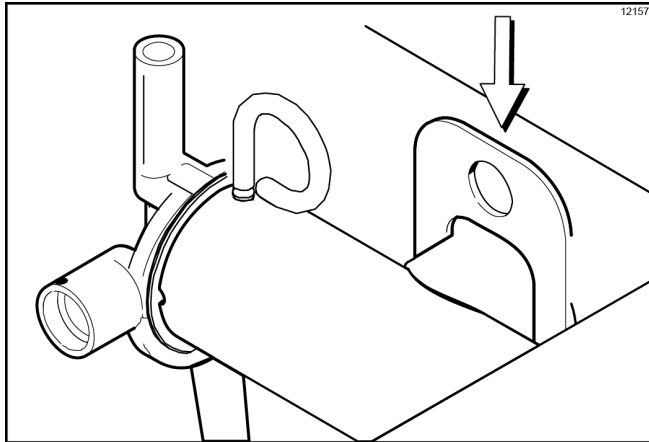

Figure-158
- Install the air/mix pump assembly at the rear of the mix hopper. To position the pump on the drive hub, align the drive slot in the piston with the drive crank of the driveshaft. Secure the pump in place by slipping the pump clip over the collar of the pump, making sure the clip fits into the grooves in the collar. (See Figure-158)